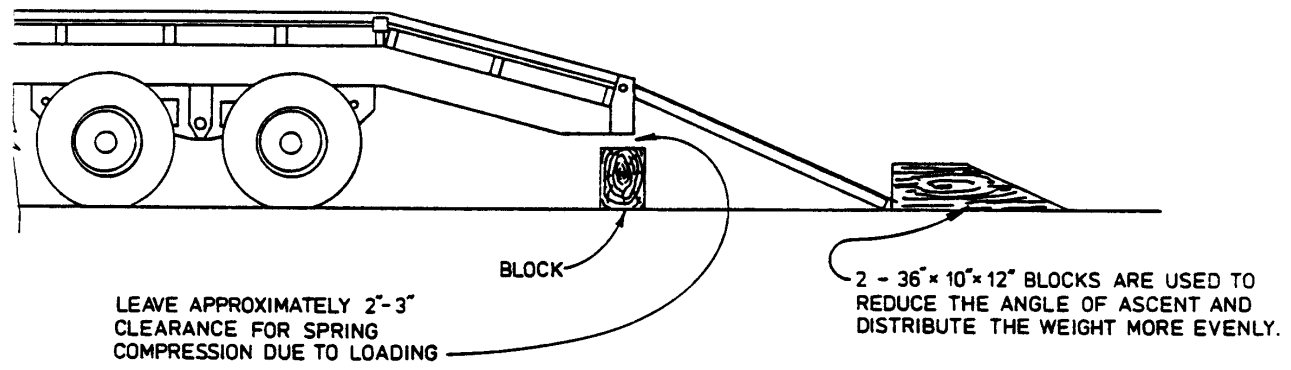

FIGURE 1
- 3.4 When loading digger derrick equipped muskeg tractors on platform trailers blocking, shown in Figure 1, shall be used to decrease the loading angle.